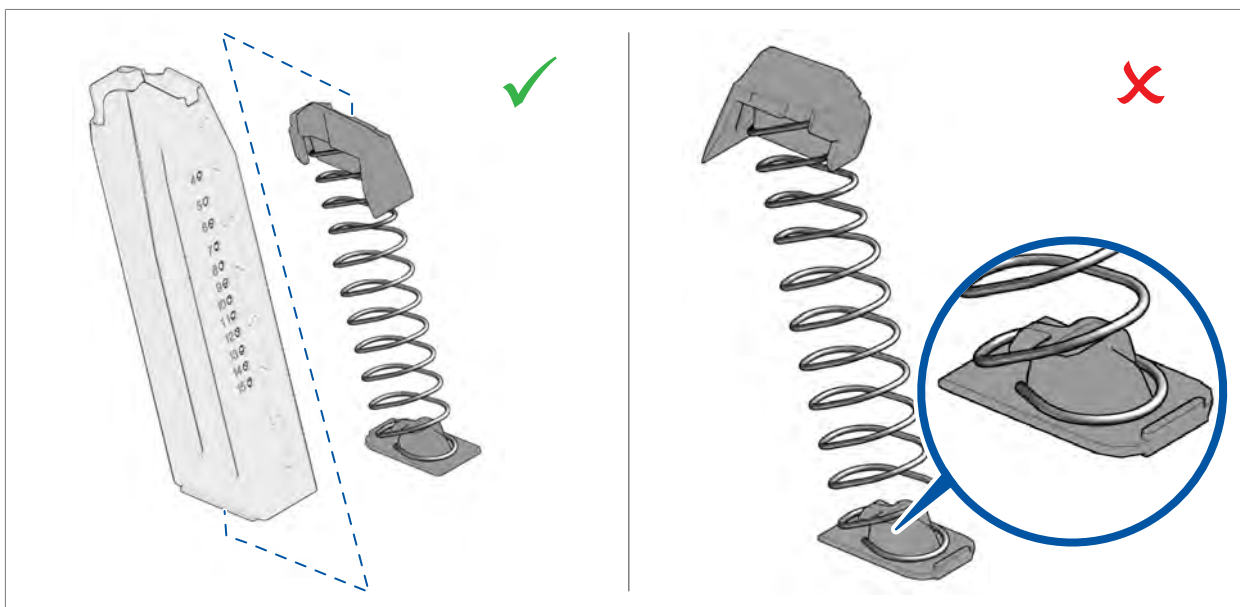

Fig. 70: Observe installation positions
1. Set follower onto magazine spring. Observe installation position (Fig. 70).
2. Place magazine spring onto magazine locking plate. Observe installation position (Fig. 70).